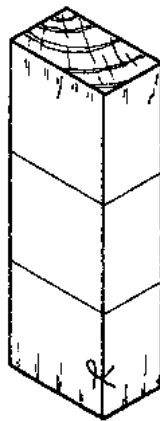

Fig. 2
- Mark out the position of the mortice and square the lines across the face side and edges, using a try square and pencil (Fig. 2).